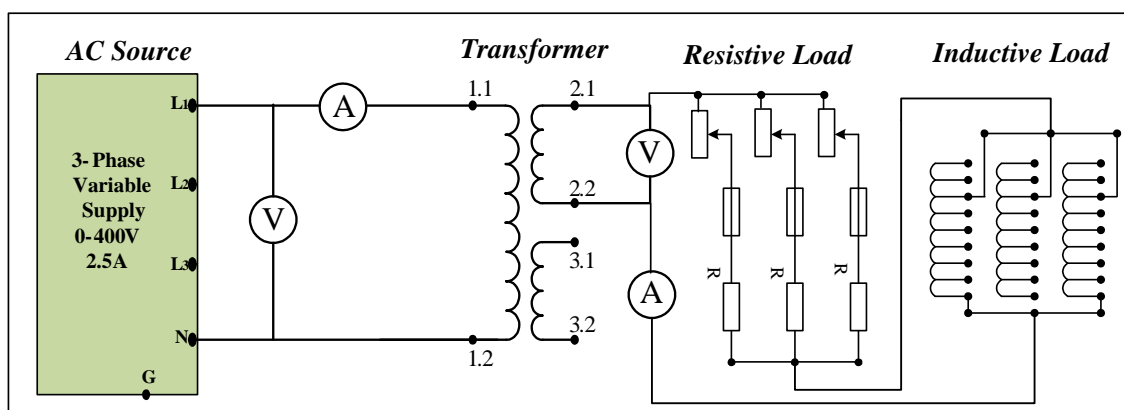

Figure 3 Inductive load voltage, current and power measurement
5. While the inductive part of the load is separated from Fig. 3 circuit, measure the per phase internal series resistance of the inductive load using the Multimeter. Choose the per phase inductance 1.2 Henry.
6. Calculate the voltages, currents and powers for the connected Fig. 3 circuit and enter the obtained data in Table 3
9. Build the circuit of Fig. 3 with the hardwired components (**control knob at 40%**). Take the measurements of voltages, currents and powers then record them in Table 3. Considering the calculated results as the base, compute the percentage errors
Table 3: Simulation and experimental results for Fig. 3